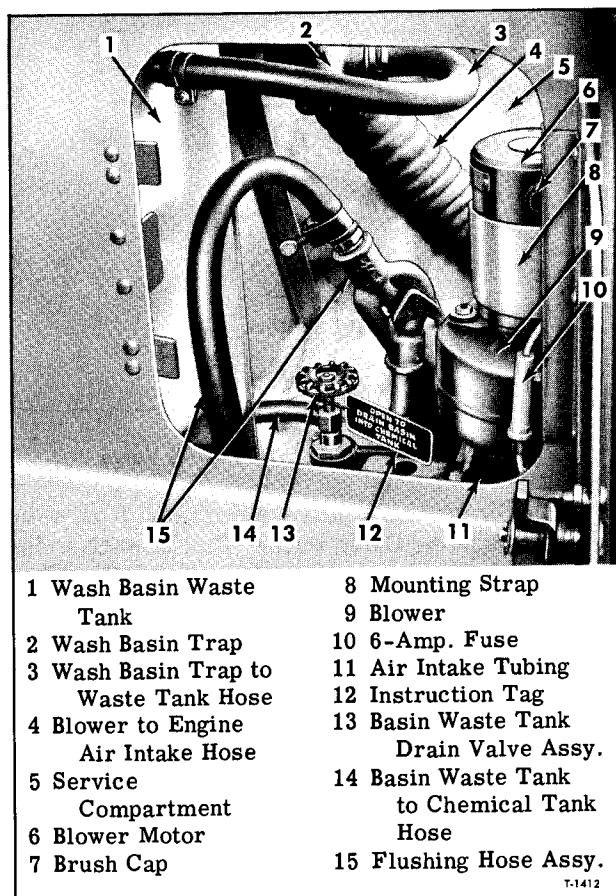

Figure 3—Lavatory Service Compartment
An electric motor driven blower, shown in figure 3, is used to exhaust odors from lavatory compartment. A 13.5 gallon polyethylene water supply tank, mounted behind lavatory rear wall over wash basin, supplies water to wash basin through a faucet by gravity feed. A 13 gallon wash
Ventilator blower, mounted in lavatory service compartment below the wash basin as shown in figure 3, forces odors from the lavatory compartment to the engine air intake.
A 6-amp line fuse is installed in blower motor feed wire near blower motor (fig. 3). Refer to "WIRING AND MISCELLANEOUS ELECTRICAL" (SEC. 7) in Maintenance Manual X-6114, for description of lavatory control relay and the blower relay. All relay circuits are shown on "Lavatory Wiring Diagram - MD-93902" in back of this manual.
2. Open water pressure into fitting, then within the lavatory compartment, open small door on riser panel at right of basin (fig. 3) for access to flexible flushing hose.
Procedures for filling and treating the chemical tank are the same as previously covered in "LAVATORY" (SEC. 3, page 56) in Maintenance Manual X-6114, except refer to figure 3 for location of flushing hose and fill chemical tank through lavatory stool with approximately 1-1/2 gallons of water instead of 6-1/2 gallons as previously recommended.
1. Through access door in paneling below wash basin (fig. 3), open drain valve which will allow water in waste tank to drain throughline (14, fig. 2) into chemical tank.
Ventilator blower and motor is mounted at right side of service compartment and is accessible after opening the small door on riser panel at right side of wash basin (fig. 3).